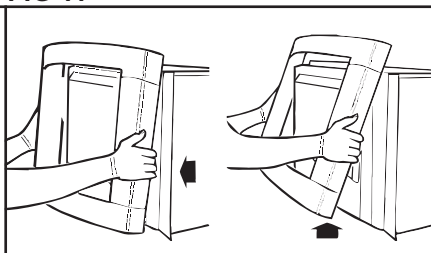

FIG 14
4. Remove the surround by pulling the lower section towards you gently to partly disengage it from the body of the heater, then gently lift it vertically to completely disengage it. Refer **FIG 14**.